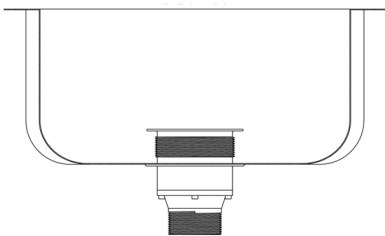

FIG2
c) Apply a bead of silicone to the recess of the outlet and around the flange of the Scraptrap. Place body through 90mm sink outlet as shown in Fig 2.